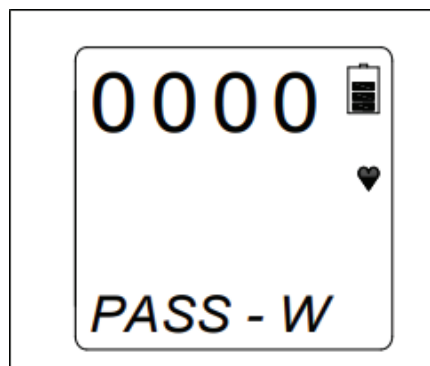

Figure 19
**4.4.2.3** Release both buttons after the second beep. The LCD screen should be as shown in Figure 19 with first digit on the left flashing.